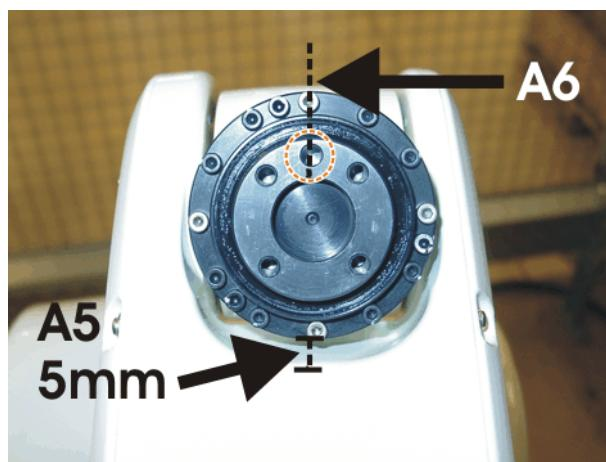

Fig. 10-22: Pre-mastering position A5 and A6
- Move A5 so that the tool flange is approx. 5 mm from the **top side** of the robot wrist (**>>>** Fig. 10-22).
- Move A6 so that the screws are lined up as shown in the figure (**>>>** Fig. 10-22).